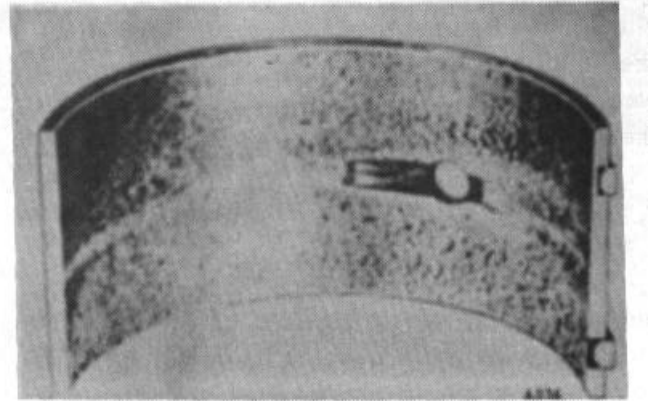

Figure 35.
a. If there is any indication of flaking out, scoring or actual wear, the bearing must be replaced. However, tri-metal bearings, when new, are smooth and highly polished. A few hours of operation will change their appearance completely. The bearing surface becomes a leaden gray in color and develops minute craters, almost cellular in appearance as indicated in Figure 35. This appearance is a natural characteristic of this type bearing and in no way indicates failure.